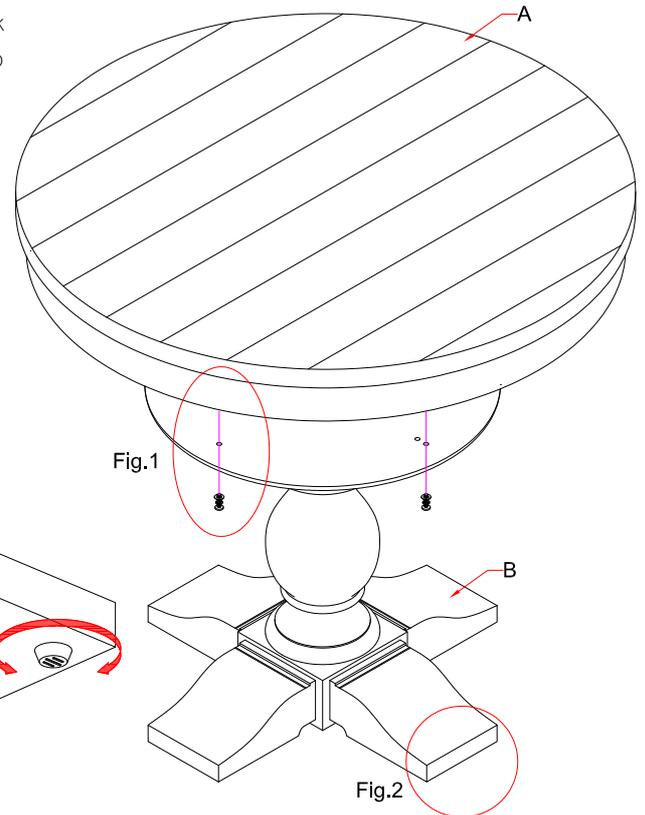

FIGURE 1
2. Align and insert the locator dowels on top of the base into the holes underneath the tabletop. Engage Allen head bolt (1) together with plain washers (3) and lock washers (2) provided. Fasten the bolt with Allen wrench (4) provided. Refer to FIGURE 1.